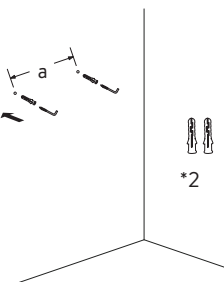

Fig. 2
4. Use the hammer to strike an expansion rubber plug into the holes on the wall, and then screw the hook into the hole (Fig. 2).